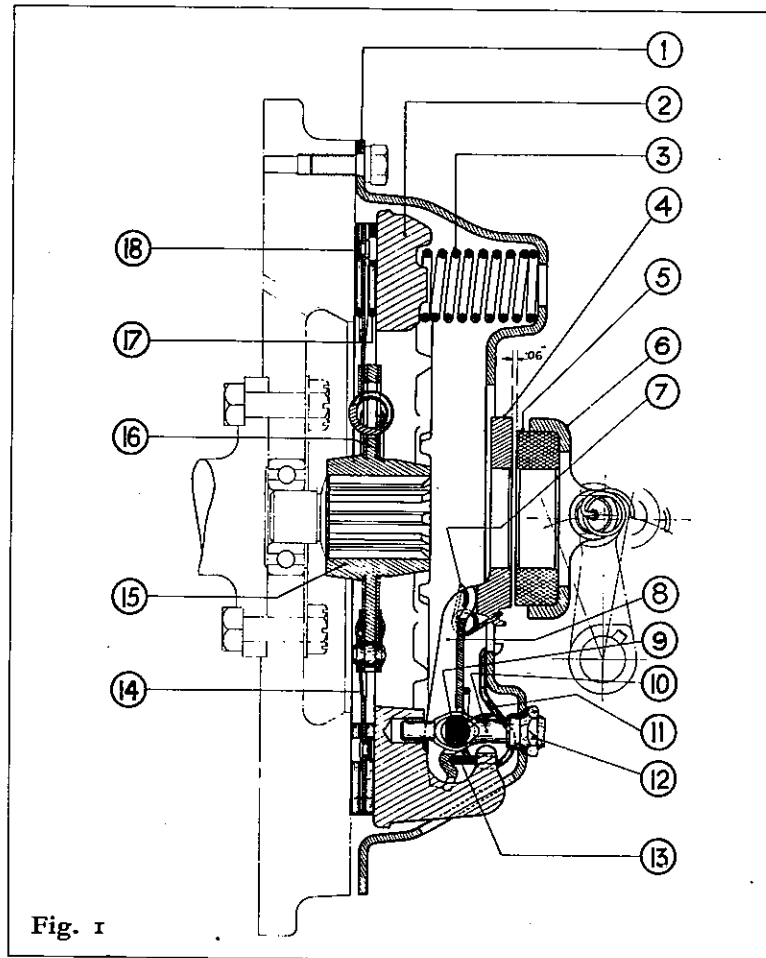

Fig. 1
GENERAL DESCRIPTION (See Fig. 1)
Note: The adjustment nuts (12), Fig. 1, are correctly set and locked when the clutch is assembled and should not be altered unless the clutch has been dismantled and new parts fitted. Interference with this
DISMANTLING (see Fig. 1)
ASSEMBLING (see Fig. 1)
2. Place the pressure plate on the blocks under the press and arrange the thrust springs (3) in a vertical position on the plate, seating them on the bosses provided (Figs. 1 and 2).
3. Lay the cover over the assembled parts, ensuring that the anti-rattle springs (11) are in position and that the tops of the springs are directly under the seats in the cover; also that the machined portions of the pressure plate lugs are under the slots in the cover through which they have to pass. Care should be taken that the parts marked before dismantling are in their correct relative positions.
5. Screw the adjusting nuts (12) on to the eyebolts (10) and secure by staking. Operate the clutch a few times by means of the ram to ensure that the working parts have settled into their correct positions. Connect the release lever plate (4) to the release levers (8) by means of the retainer springs (7).